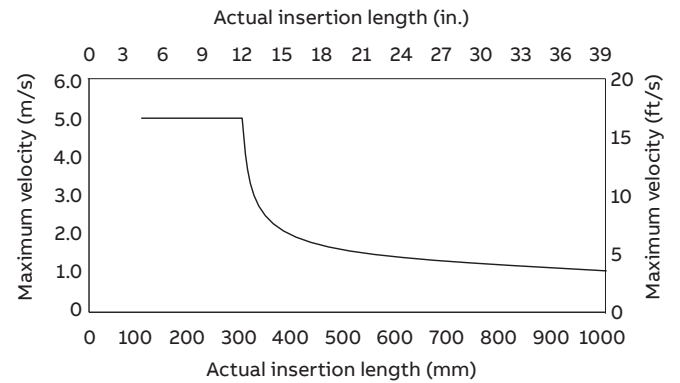

Figure 2 Maximum allowable velocity for different insertion lengths
- The maximum velocity depends upon the actual insertion length. Typical insertion lengths are 0.125 and 0.5 x pipe diameter. Figure 2 is a guide\* to the maximum allowable velocity for different insertion lengths.
\* Figure 2 is intended as a guide only. Factors that influence the maximum insertion length into the pipe include: flow sensor mounting components (for example, standoffs, bushes and valves) pipeline vibration, fluid vibration and pump noise.